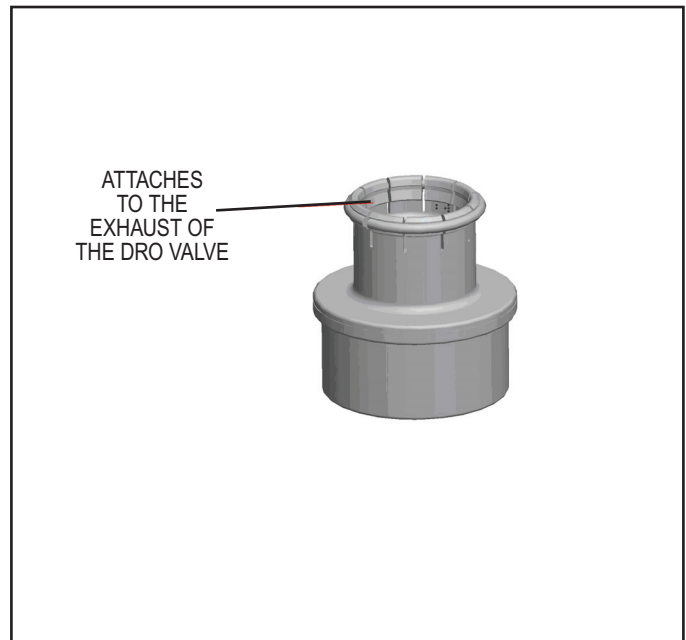

FIGURE 2 - SILENCER
An optional silencer, as shown in Figure 2, is available to reduce noise level during the unloaded operation. The silencer snaps into the bottom of the exhaust port (3).
9. Start the engine and allow the system to reach cut-out pressure. The valve should open allowing air to exit the exhaust port. A silencer, shown in Figure 2, is recommended to reduce the noise level out of the DRO valve when exhausting. Bendix provides a silencer that snaps onto the exhaust port the DRO.